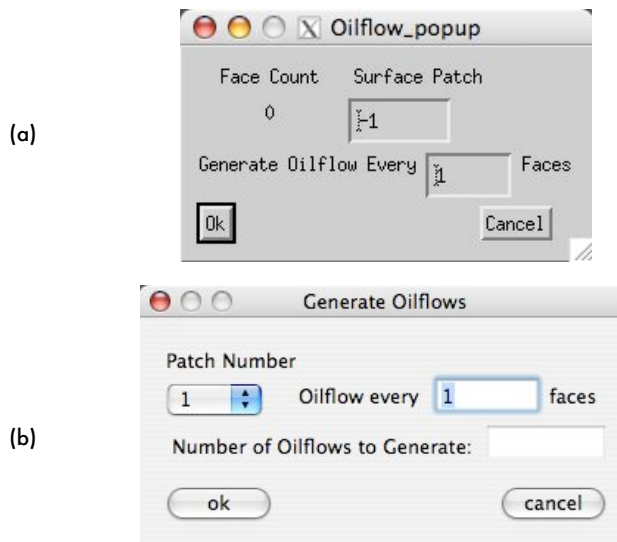

Figure 2.6.5 The Oilflow Dialog
1. You can select surface triangles belonging to a particular patch by selecting the "Oilflows..." option from the Data menu. Doing so brings up the Oilflow dialog box, an example of which is shown in Figure 2.6.5.